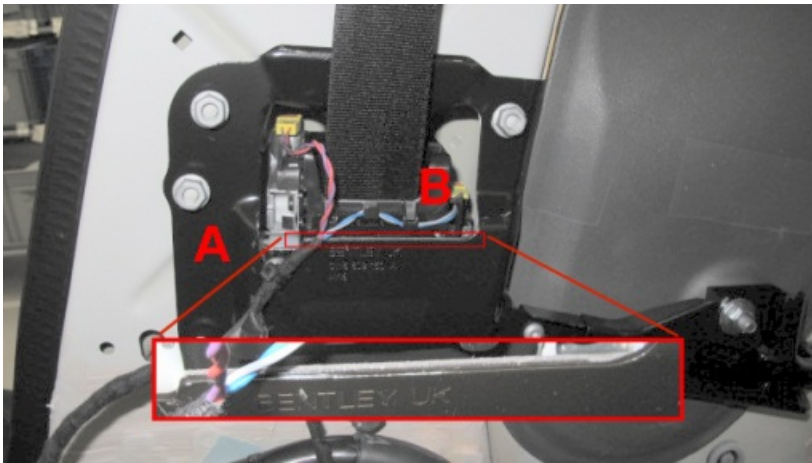

Figure 4
4. When refitted The isolation pad will be sandwiched between the seatbelt reel assembly (B) and the mounting plated A and should just be visible flush with the top of the aperture in the seat belt mounting plate (see Figure 4)